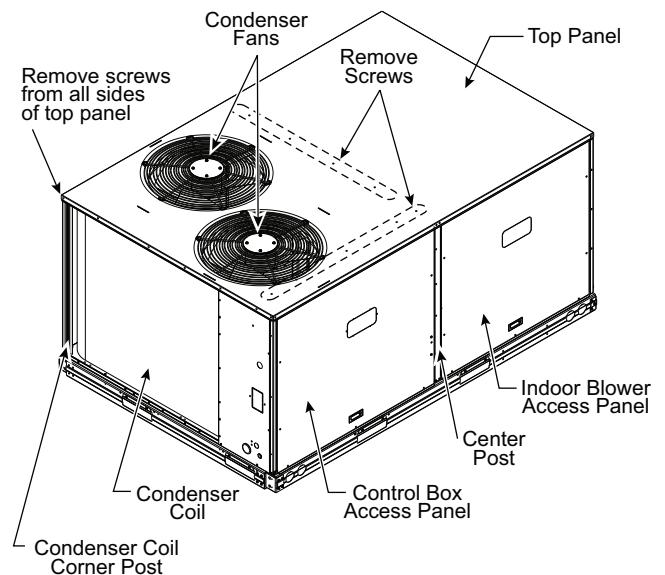
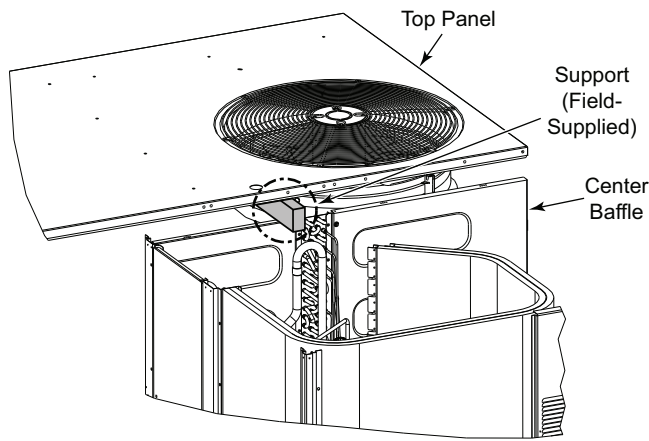

Fig. 19 — Typical Location of Screws and Coil Corner Post (size 07-09 unit shown)
Fig. 20 — Propping Up Top Panel
2. Remove all screws from the top panel except the screws securing the condenser fan to the top panel. See Fig. 19.
3. Remove condenser coil corner post. See Fig. 19. To hold top panel open, place coil corner post between top panel and center post. See Fig. 20.